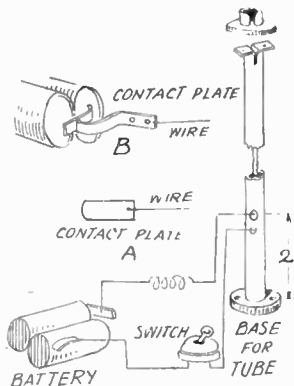

Fig. 4—Theoretical circuit of lamp
To form a fixing for the bulb holder which may be purchased ready-made and with the necessary points to which the flex may be attached, the tube is cut down at the top end and the two 'leaves' turned down or folded back and then drilled, as the detail Fig. 4 shows. Two holes are next drilled in the tube at about 2ins. up from its base for the flex to pass through on its way up to the top.
The arrangement of the batteries and the method of wiring is shown in Fig. 4. The batteries lie to the left of the lamp and in the corner of the box, being held in place there by two small-section wood fillets.
plate is fixed to the floor of the box just where the batteries will rest. The raised contact piece on the batteries will meet the plate which has one of the flex wires attached to it, see enlarged detail at (A) in Fig. 4.
A further contact plate may be fixed to the back of the compartment to form contact with the other brass strip on the battery. This contact plate is cut and bent up, as at (B), Fig. 4, and screwed in place and another wire attached for connecting up to the lamp.